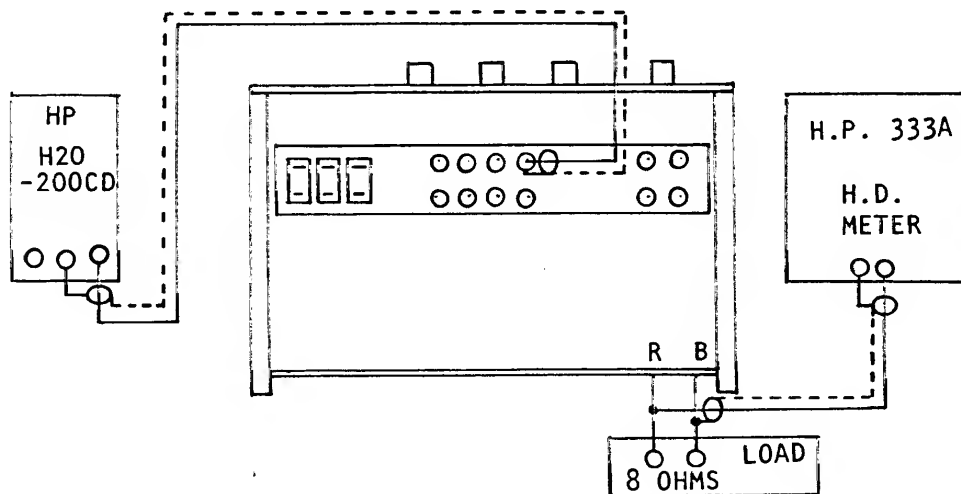

Figure 2-1 HARMONIC DISTORTION TEST CONNECTIONS
2.4.1.1 TOTAL HARMONIC DISTORTION - (Figure 2-1)